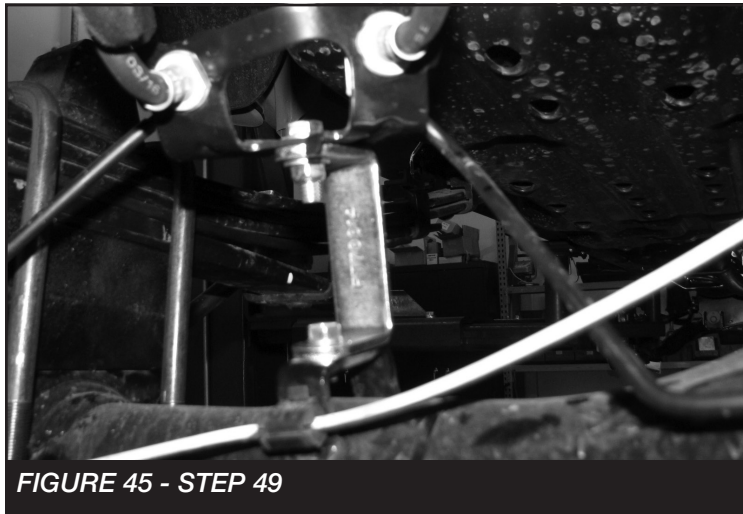

FIGURE 45 - STEP 49
49. Locate FT70014 (brake line bracket rear axle). Attach to the factory perch using the factory hardware. Attach the factory bracket to the new drop bracket using the supplied 5/16" x 1" bolt, nut, & washer. Torque to 29 ft-lbs **SEE FIGURE 45**